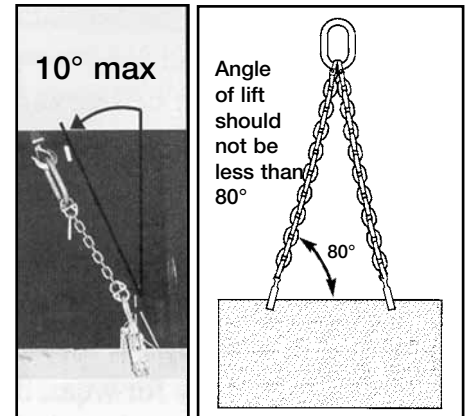

Figure 38
- B. The lifting angle (Fig. 37) between the sling legs on opposite sides of the load should be less or equal to 60 degrees. The lifting angle (Fig. 38) between the sling legs on same side of the load should be less or equal to 20 degrees.
Position the clamp(s) to balance the load. Position the clamp(s) so the lifting force of the crane is directly in line with each clamp's lifting shackle, and the load is evenly distributed (Fig. 38).